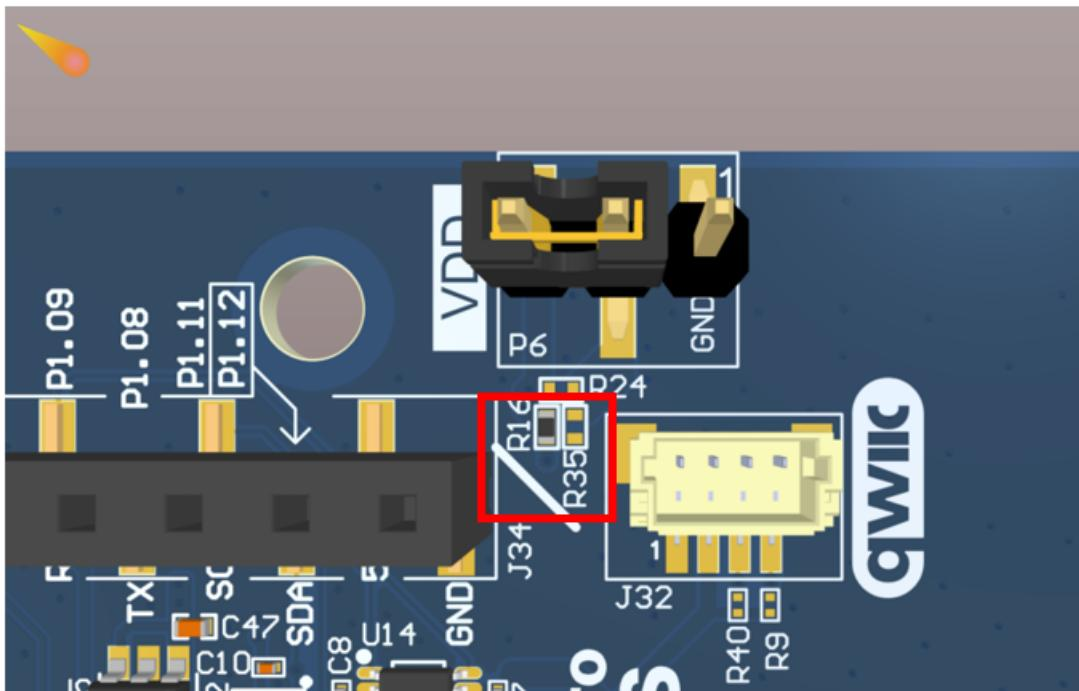

Figure 3: PCB location of these two rework parts for synchronizing the IO voltage of nRF5340 and BL54L15 $\mu$
- VDD\_nRF pin can also be powered from external power supply by using P6 header. However, in order to synchronize IO voltage between nRF5340 debug chip (U2) and BL54L15u, please depopulate R16 and fit R35 as 0 ohm. Figure 3 shows the PCB location of these two rework parts.